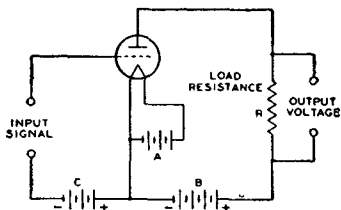

Fig. 14
The plate current flowing through the load resistance (R) of Fig. 14 causes a voltage drop which varies directly with the plate current. The ratio of this voltage variation produced in the load resistance to the input signal voltage is the voltage